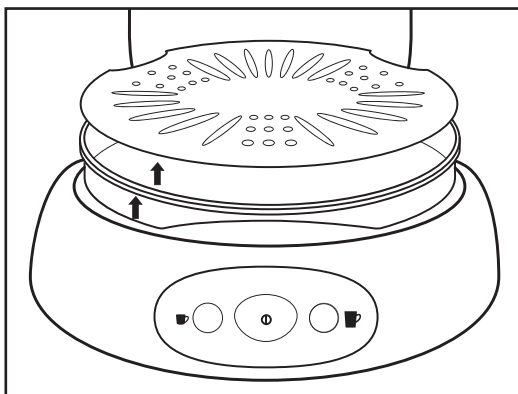

FIGURE 11
4. Remove the Drip Tray and Overflow Tray, see Figure 11.